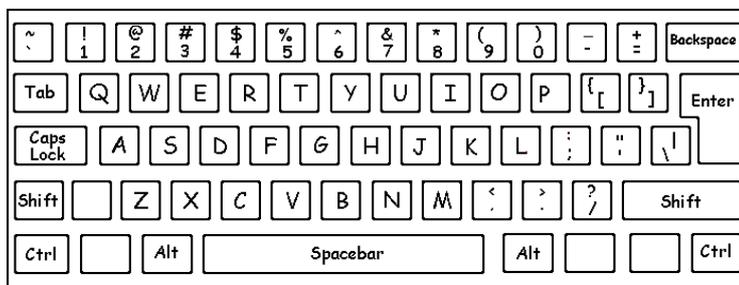

Fig. 15: Keyboard with US layout, included with the hexapod system
- 1 If your controller has a built-in keyboard and display and you wish to use them, go on to the next step, Otherwise connect a standard PC keyboard (US-layout, Fig. 15) and VGA monitor to the appropriate connectors of the controller.